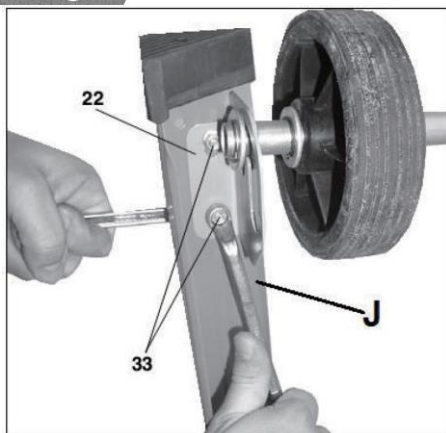

Fig. 4
Working from the inside, fit the mounting for the chassis (22) to the rear legs (J) with 4 screws (33) Fig.4.